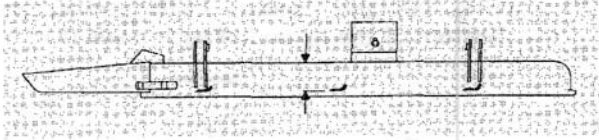

Figure 95
2. Rotate blade until the ends face forward and rearward (Fig. 95). Measure from inside of cutting unit to cutting edge at front of blade (Fig. 95), and remember this dimension.